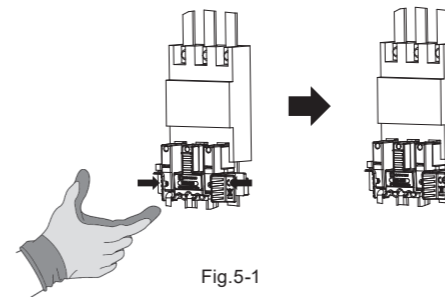

Fig. 5-1
- 2) Pinch and press both ends, protected by the barrier, of the breaker adapter with two fingers (the points indicated by arrow marks in Fig. 5-1).